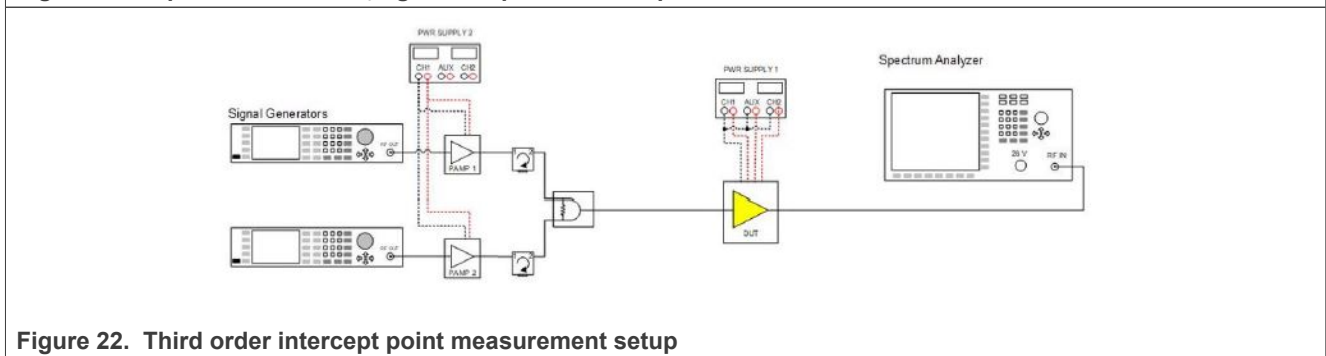

Figure 22. Third order intercept point measurement setup
The saturated output power is measured using the setup shown in Figure 22.
IP_{3o} is measured using a setup shown in Figure 22.
5. Nonlinear distortion measurements IP3 can be performed with a set-up like is depicted in Figure 22. The following settings are recommended to perform the IP3 evaluation.